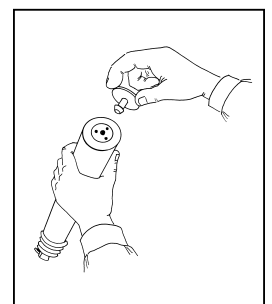

Figure 2
4. Carefully remove pump valve on the outside bottom of the pump cylinder (see figure 2).